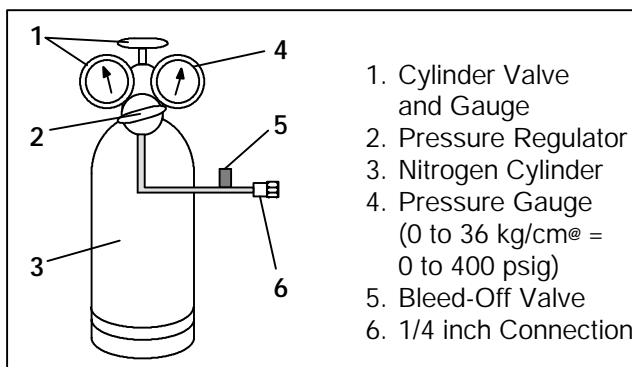

Figure 6-9 High Pressure Switch Testing
- c. Connect hose to a cylinder of dry nitrogen. (See Figure 6-9.)